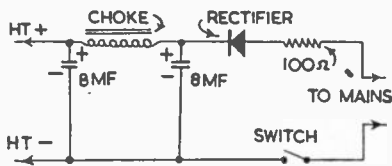

Fig. 4—A circuit without transformer
The circuit shown in Fig. 4 can be used, but has the disadvantage that H.T. negative is connected to the mains. As a result, the receiver chassis and everything electrically in contact with it, including accumulator tags and aerial, will be at mains voltage. However, this type of circuit is used in many commercial receivers of the cheaper kind, and can be employed if the constructor remembers the foregoing. Where the set is a totally enclosed cabinet model, no real danger arises. But if used by inexperienced persons, shocks may be felt, and it is, therefore, recommended that this circuit only be adopted by the experimenter who will take proper precautions. The output will be about 200 V. and will require dropping to a lower figure, as explained, unless mains-type valves are present in the equipment. No direct earth must be employed on apparatus driven from the circuit in Fig. 4. Its advantage lies in no transformer being required, which reduces cost. (467)